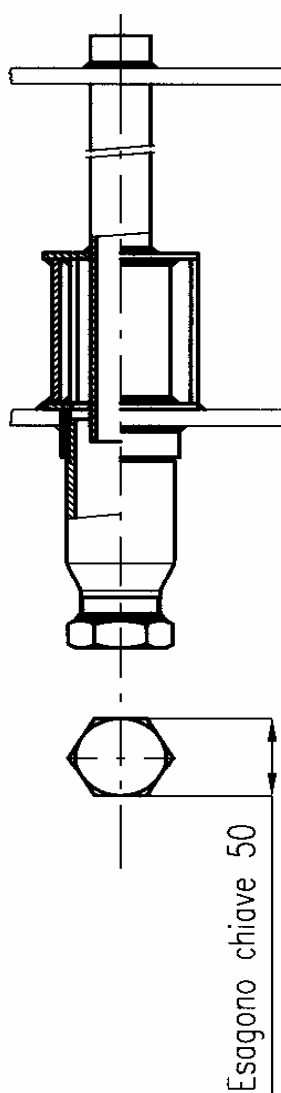

Figure 3: DETTAGLIO CICLONE = CYCLONE DETAIL
- remove the cyclone drain bottom bowl (figure 3)